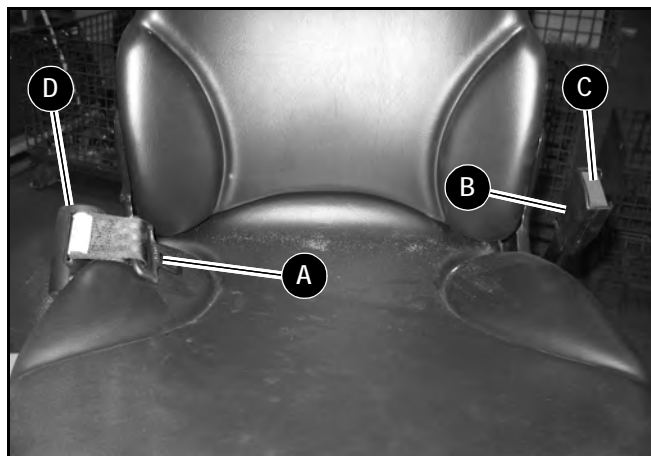

Figure 3-25 Seat Belt
Fasten the seat belt around your hips and waist and insert tab (A, Figure 3-25) into buckle (B) until it clicks securely in place. Slack in the seat belt should automatically retract into seat belt spool (D).